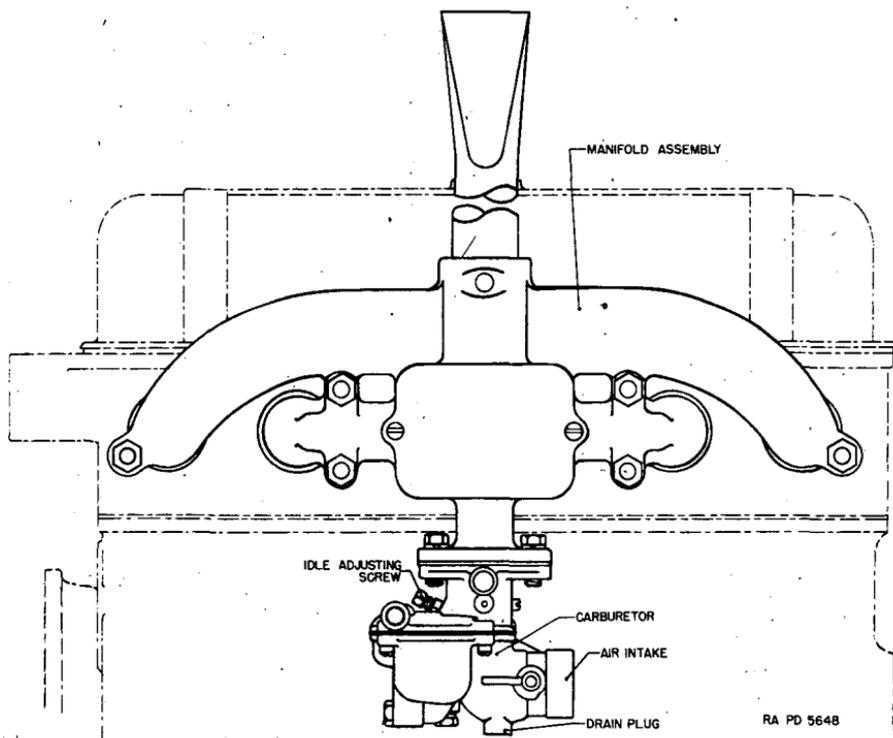
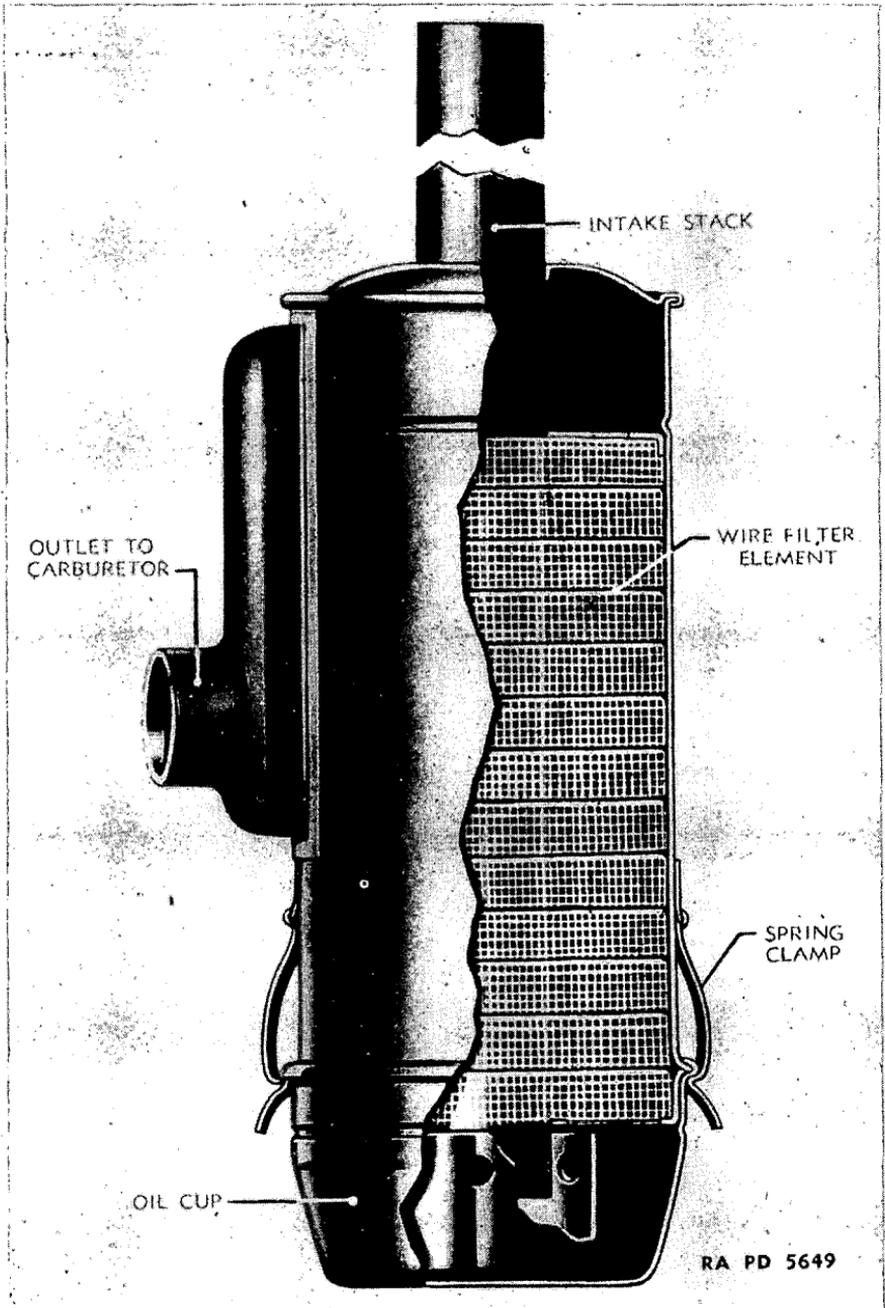

FIGURE 10.—Carburetor and manifold.
FIGURE 11.—Air cleaner—sectional view.
(4) To replace, proceed in the reverse order of removal, using new oil pan gasket if available.
**34. Manifolds.**—*a.* The intake and exhaust manifold (fig. 10) is located on the left hand side of the engine and is a one piece casting. The manifold is fastened to the port connections by hex nuts and studs which pass through lugs on the manifold. The hex nuts at each end of the manifold are made of bronze to facilitate removal. The remaining four nuts are of steel. An exhaust pipe or stack extends vertically from the central opening in the manifold for discharge of exhaust gases into the open air. It is held in place by a locking bolt and nut, and lock washer.
c. *To remove spark plugs.*—(1) Disconnect the magneto cable from each plug.
(2) Using a spark plug wrench provided, unscrew the spark plugs and remove them together with their gaskets.
(3) When replacing with serviceable plugs, be sure to install new gaskets under the spark plugs and tighten them sufficiently to prevent gas leakage around the plugs.
(4) Do not use a wrench with a handle more than 10 inches long. It is possible to distort certain sections of the plug if too much force is used to tighten the spark plugs in the engine cylinders.
**38. Carburetor.**—*a. Description.*—The carburetor is of the up-draft type and is attached directly to the lower part of the intake manifold by means of mating flanges and two cap screws with associated lock washers (fig. 10).
(1) Pull the hand throttle control lever all the way back to the "Off" position.
(2) With the engine idling, adjust needle valve located on front top of the carburetor (fig. 10) for correct fuel mixture. Back off the needle until the engine begins to run unevenly, then turn the needle inwardly (clockwise) slowly until the engine runs smoothly. Turning the needle inwardly provides for a richer mixture to be delivered to the engine.
(3) The normal needle setting is approximately  $1\frac{1}{2}$  turns out from the seat. After the mixture has been properly set, regulate the idling speed of the engine by adjusting the set screw on the throttle valve arm located on the inner side of the carburetor to obtain the lowest idling speed consistent with reliable operation of the engine. After making this adjustment, recheck the setting of idle needle valve adjustment.
**39. Air cleaner.**—*a. Description.*—An air cleaner of the oil bath type (fig. 11) is mounted on the left-hand side of the tractor and is hose connected to the carburetor air intake opening.